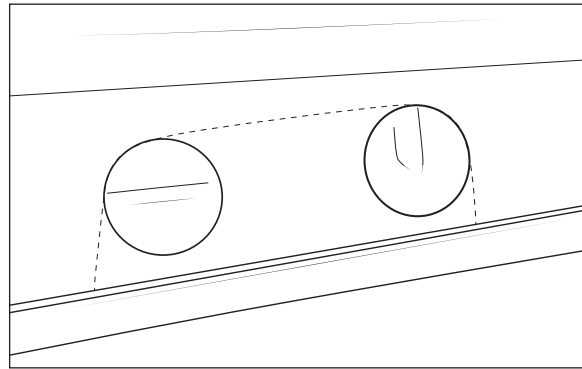

Figure 3
- Use a pilot drill to drill ONLY the outer layer of the hood first, then use the 3" hole saw to carefully cut through ONLY the outer layer (fig. 3). Cut gradually and carefully so that the hole saw doesn't grab and move off center